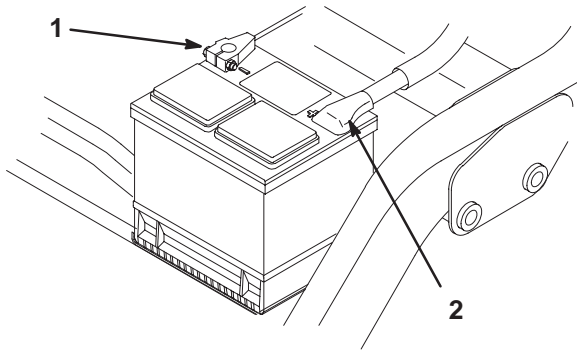

Figure 4
4. First, install the positive cable (red) to the positive (+) terminal and then the negative cable (black) to the negative (-) terminal of the battery and secure them with the bolts and nuts (Fig. 4). Slide the rubber boot over the positive terminal to prevent a possible short from occurring.